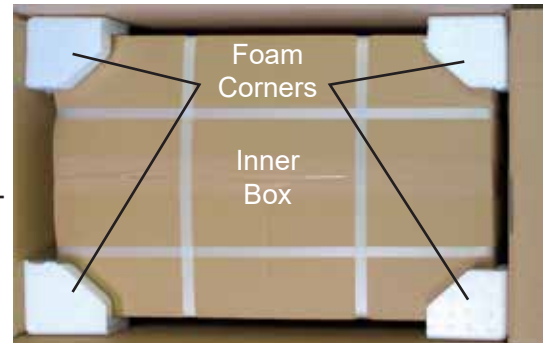

Figure IS-01 Top Foam Layer
2. Remove the top 4 pieces of protective Foam Corners, and remove the inner box. Refer to Figure IS-01.